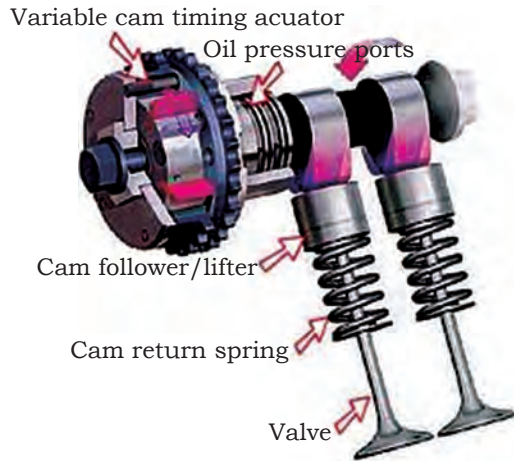

Fig. 3.10: Cam Lobe and Tappet
13. Cam Lobe and Tappet: The cam lobe (see Fig. 3.10) of the camshaft is placed directly above the bucket tappet, such that the lobe comes around it and pushes down the bucket tappet and the valve, thus opening the valve. In an overhead camshaft with rocker arm, the cam lobe comes under the valve lifter, and causes the rocker arm to rock or turn the lobe and pushes down the valve stem and it moves down to open. When the cam lobe passes the valve lifter the valve spring retains back to the original